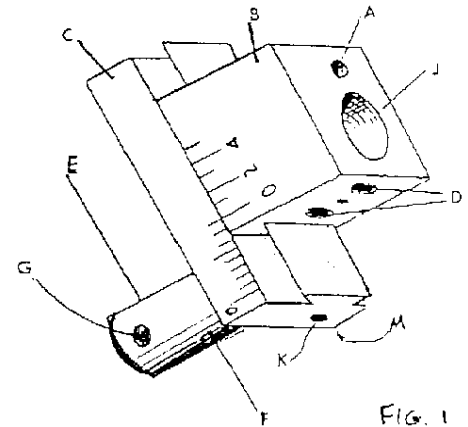

FIG. 1
1.0 MOUNTING THE ATTACHMENT--setting it onto the Mast, and adjusting it to the proper radial position (relationship to the Index Gear). In doing this, the Mast is set onto the machine, and a flat lap is set on the platen. For references to parts of the Attachment, refer to the outline drawing [fig. 1]--
a) Mount the attachment onto the Mast's Spindle. The hole (J) slides over the Spindle--slightly snug the two set screws (D) that bear on the Spindle--so that the Spindle can still be made to rotate within hole (J).
c) Insert and lock-in the Alignment Bar in the Attachment spindle (E) (note: an Alignment Bar comes with the Keyed-Spindle Ultra Tec--if you do not have that configuration, in place of the Alignment Bar, use the long side of block C to accomplish the following instructions),